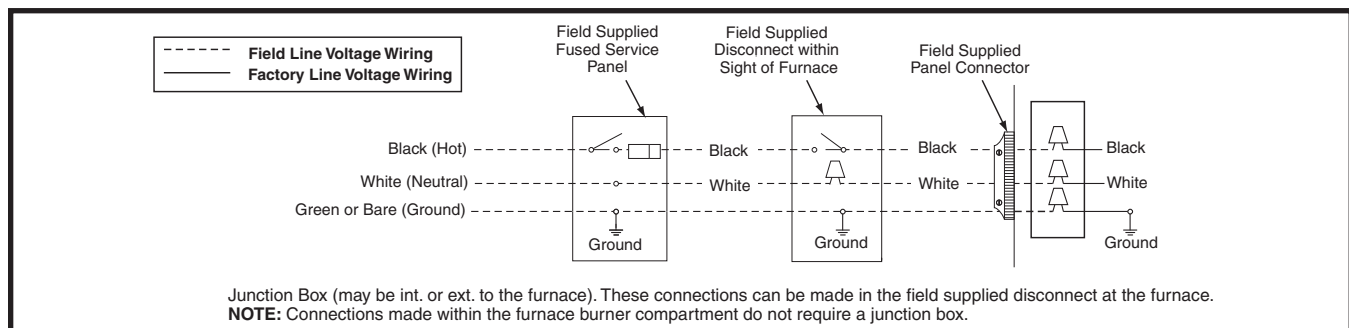

Figure 14. Line Voltage Field Wiring
- An electrical disconnect must be installed readily accessible from and located within sight of the furnace. See Figure 14 or the wiring diagram label
- Proper line voltage polarity must be maintained in order for the control system to operate correctly. Verify the incoming neutral line is connected to the white wire and the incoming “hot” line is connected to the black wire. The furnace will not operate unless the polarity and ground are properly connected as shown in Figure 14.